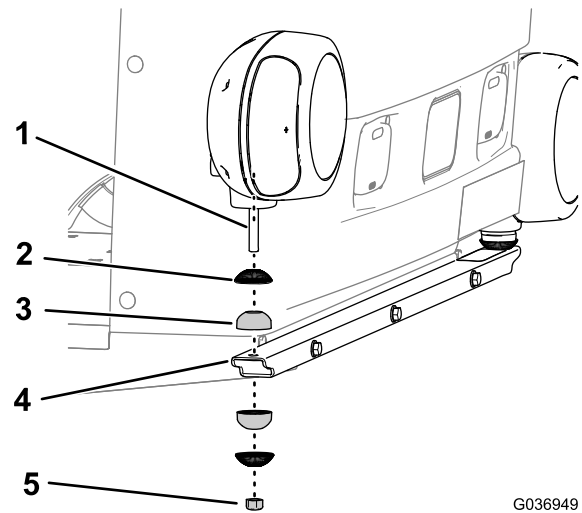

Figure 9
4. Remove the locknut (10 mm), 1 joint half, and 1 serrated shell from the headlight assembly (Figure 9).
5. Align the threaded post of the headlight with the vertical hole at the end of the headlight support (Figure 9).
- Note:** Ensure that the upper joint half and the serrated shell are aligned as shown in Figure 9.